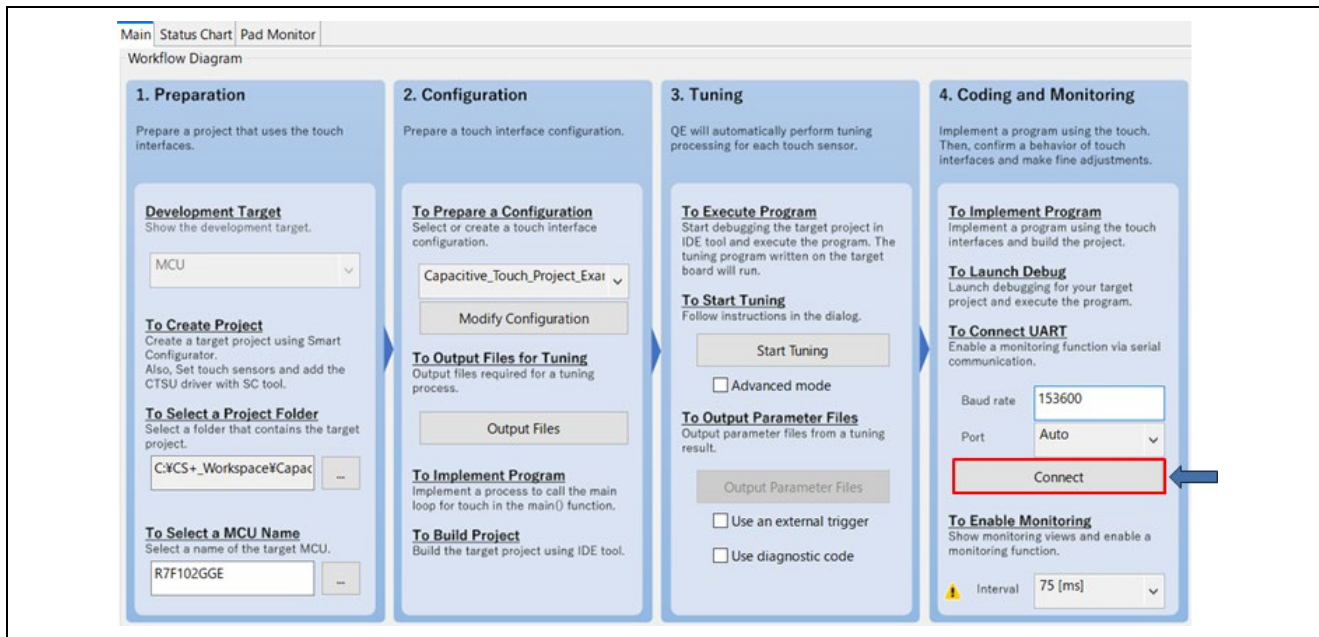

Figure 8-43 Serial Connection
- Click on [Connect] for serial connection with the target board. [Connect] shown in the red frame in Figure 8-43 will change to [Disconnect].